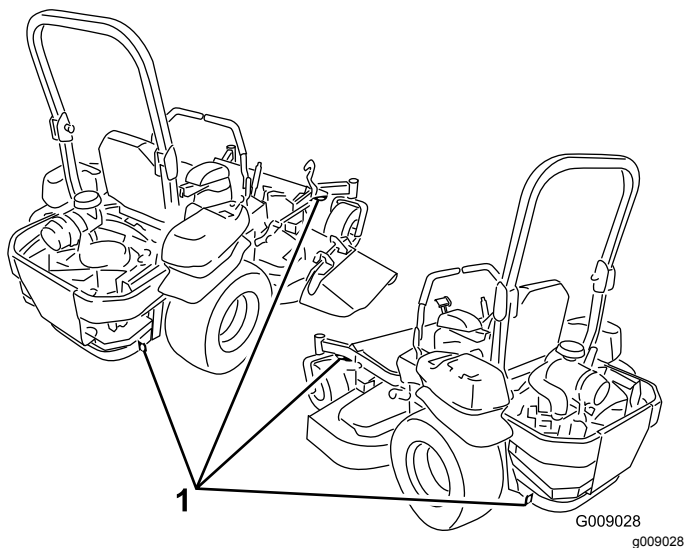

Figure 33
5. Use the metal tie-down loops on the machine to securely fasten it to the trailer or truck with straps, chains, cable, or ropes (Figure 33).